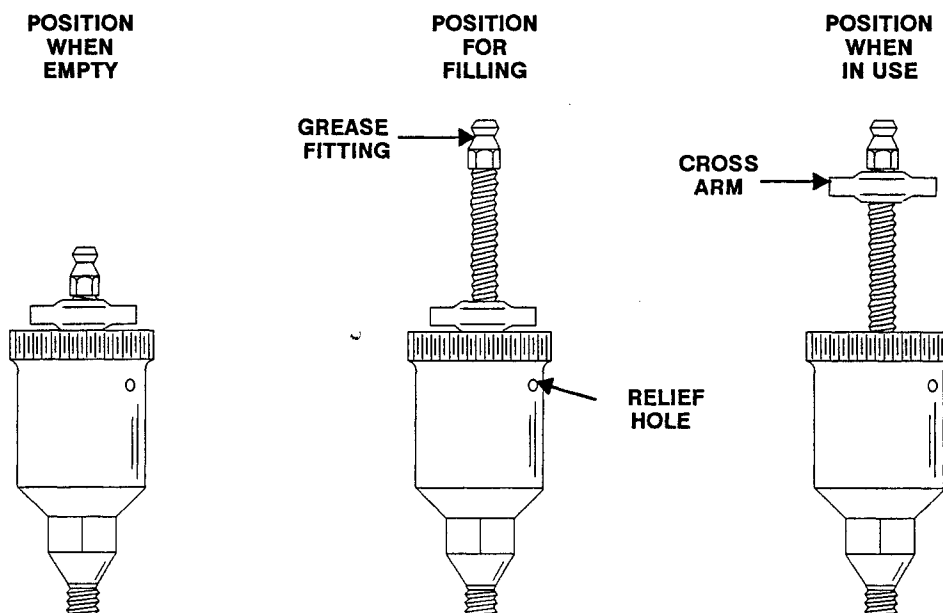

Figure 5. Automatic Lubricating Grease Cup
Fill the grease cup (13) through the grease fitting with No. 2 lithium base grease until grease escapes from the relief hole. Turn the grease cup arm counter-clockwise until it is at the top of the stem; this will release the spring to apply grease to the seal (see Figure 5).